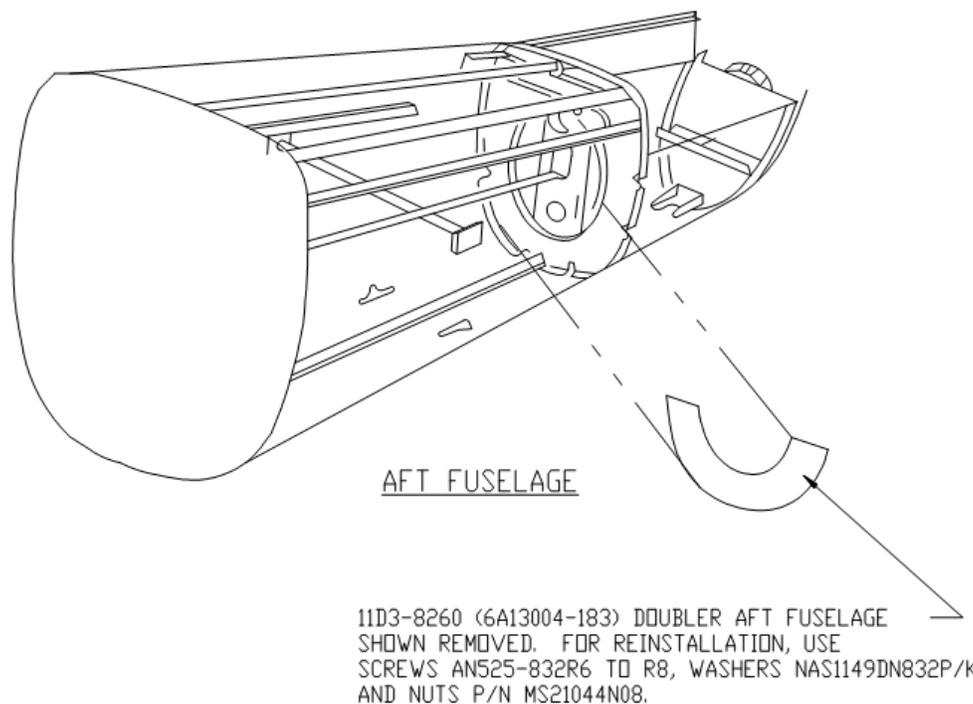

Fig. 1 – Doubler shown removed
3. Drill rivets connecting the forward lower doubler, Wipaire P/N 11D3-8620, to the Sta. 228 bulkhead and aft doubler P/N 11C3-8261. See figure 1 and drawing 11D1-8015